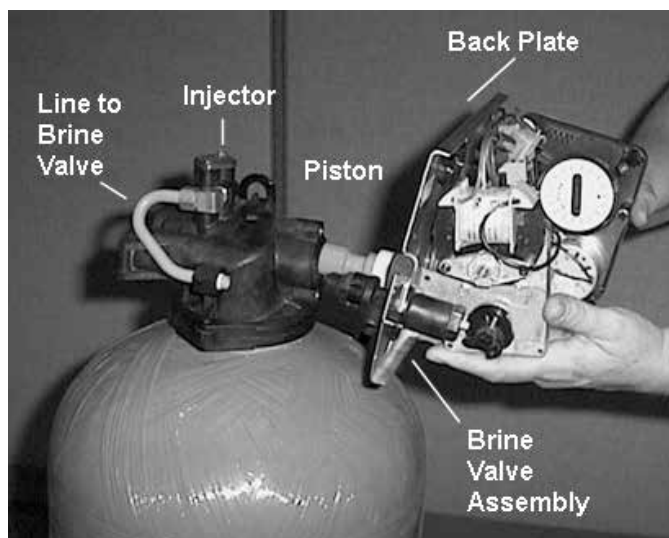

Figure 9
5. Grasp the back plate on both sides and slowly pull end plug and piston assembly out of the valve body (see "Figure 9") and lay aside.